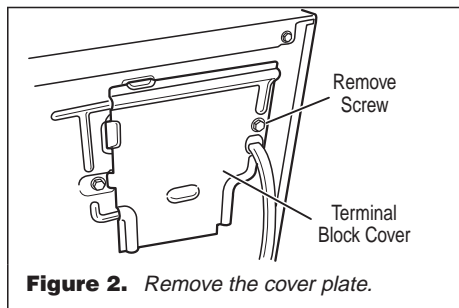

Figure 2. Remove the cover plate.
2. Remove the cover plate from the top right corner of the back of the dryer. See figure 2.